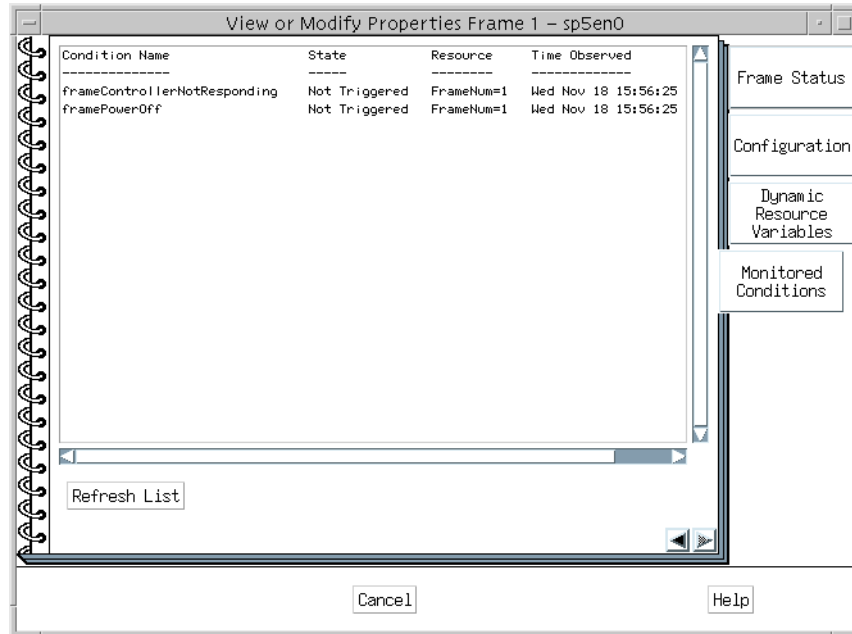

Figure 57. Monitored conditions page of frame notebook
1. Double click the frame icon on which you want to check the monitored conditions. You will see the View or Modify Properties Frame notebook as shown in Figure 57.